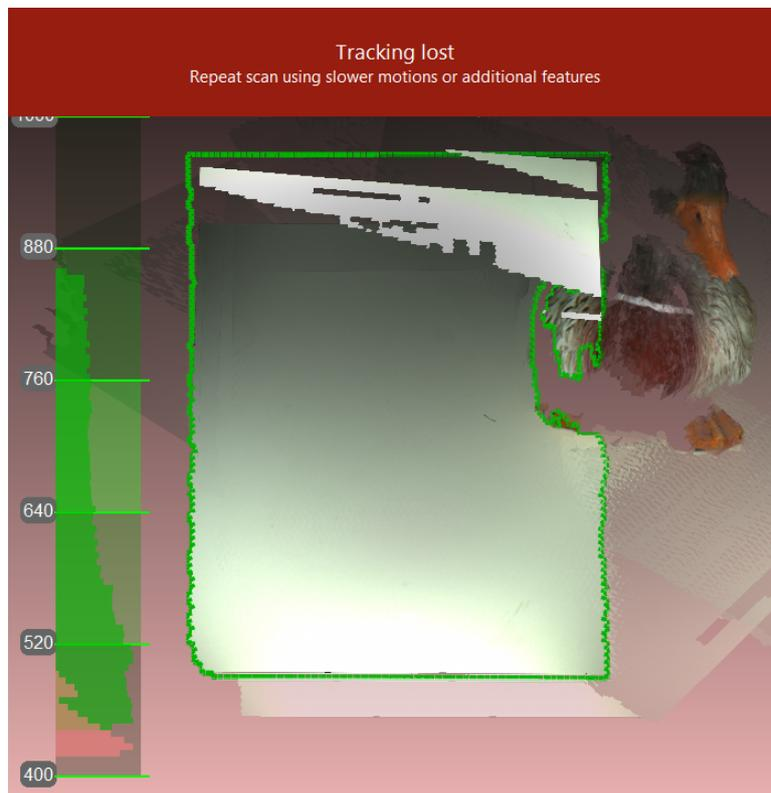

Figure 32: Alert message: tracking lost.
- Artec Studio switches almost instantly from displaying *Tracking lost* mode (see Figure 32) to *Searching for position*, which appears on a green background.